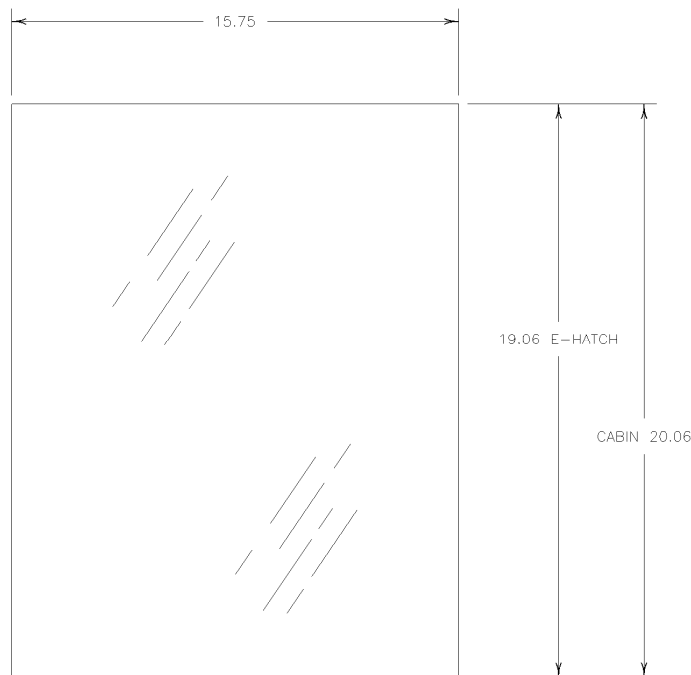

FIGURE 13/ GRAPHIC 25-23-02-991-013
- C. Trim replacement inner lens to size, ref table for proper sizing. (See FIGURE 13/ GRAPHIC 25-23-02-991-013) or match size w/ damaged inner lens.